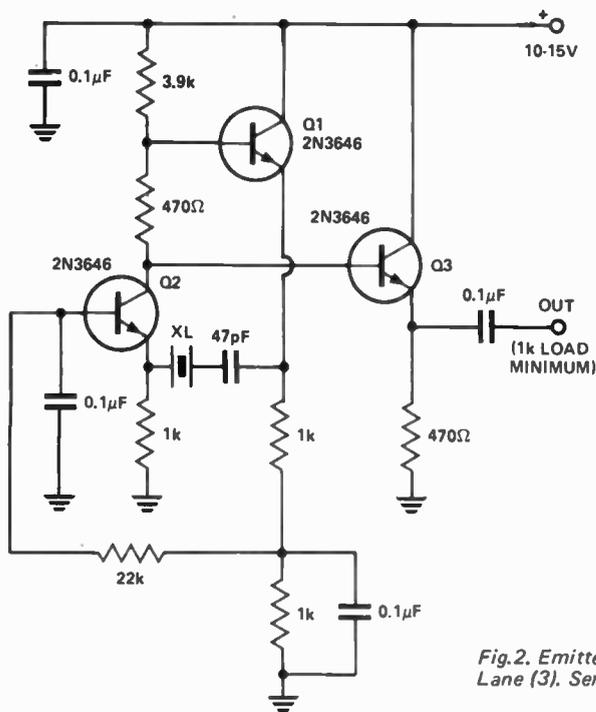

Fig.2. Emitter-coupled oscillator — after Lane (3). Series mode.
The first circuit is an emitter-coupled oscillator, a version of the Butler circuit. The basic circuit first appeared in VHF Communications in 1970 (p.240) as portion of a VHF-UHF calibration spectrum generator. Versions have subsequently been published in the 'VK5 Bulletin' (S.A. Div. WIA) in 1972 and 6UP, August issue, 1974. Lane (3) discusses a variation of this circuit (Fig. 2).
values. An emitter follower or source follower buffer is recommended. Similar comments to the above apply to Fig. 2. An emitter follower buffer is included in this circuit. Both circuits are slightly frequency sensitive to power supply voltage changes and load variations. A load of 1 k or greater is recommended.